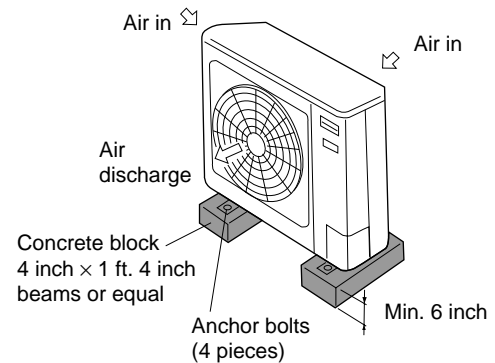

Fig. 5
- provide a solid base a minimum of 6 inches above ground level to reduce humidity and protect the unit against possible water damage and decreased service life. (Fig. 5)